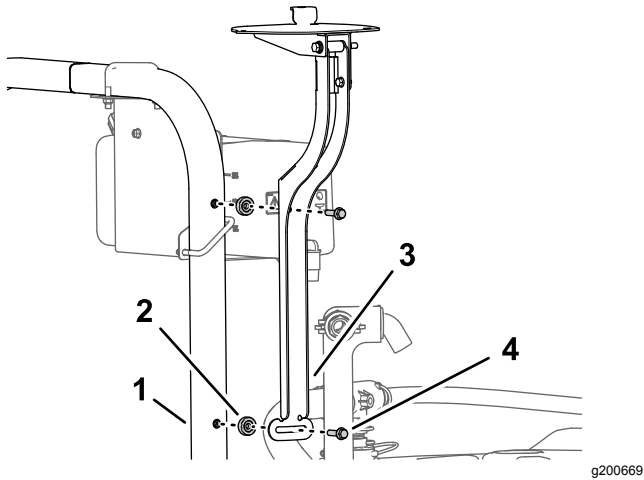

Figure 156
1. Assemble the receiver mount and spacer (3/8 x 7/16 inch) to the roll bar with the flange-head bolt (3/8 x 1-1/2 inches) as shown in Figure 156.